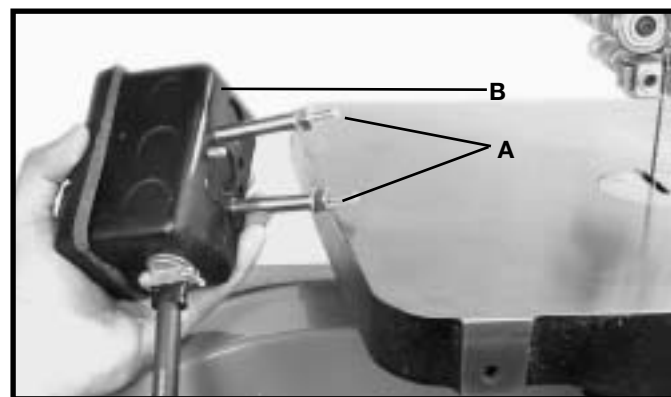

Fig. 12
3. Remove the two outer hex nuts and lock washers (A) Fig. 12, from the two screws extending out from the back of the switch box (B).